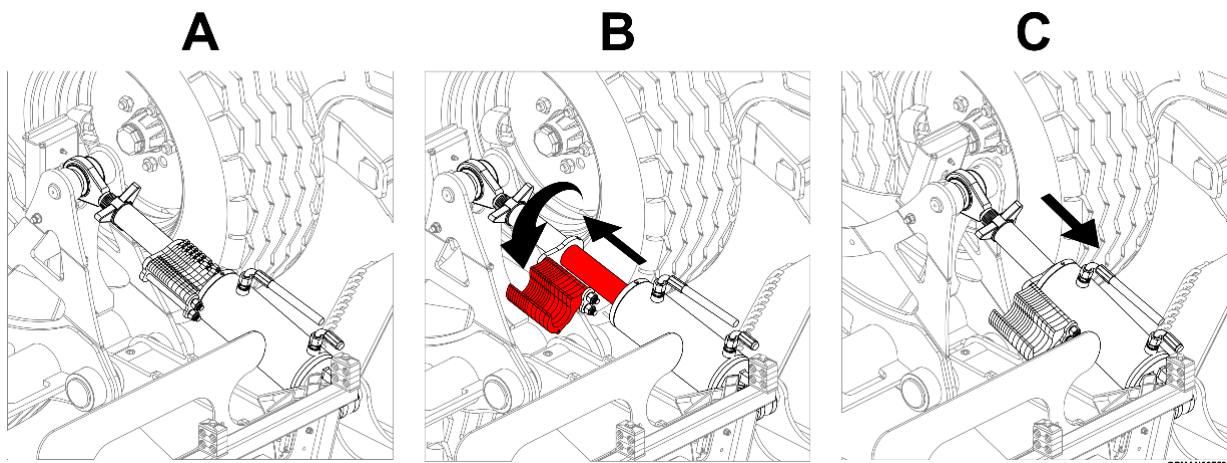

Figure 4.6
- 4.4.2.2 Ensuring the hoses are seated properly, enter the tractor cab and use the tractors hydraulic control levers/buttons to completely fill the centre and wing axle lift ram cylinders with oil and raise the machine to create a clearance between the end of the ram and the spacer; see Figure 4.6 (B).
- 4.4.2.3 Safely stop and leave the tractor and proceed to remove all the ram spacers from both the centre axle lift rams; see Figure 4.6 (B).
4.4.2.9 Raise the machine fully. Safely stop and leave the tractor and proceed to **fit all 15 ram spacers** into both of the centre axle lift rams; see Figure 4.6 (A).